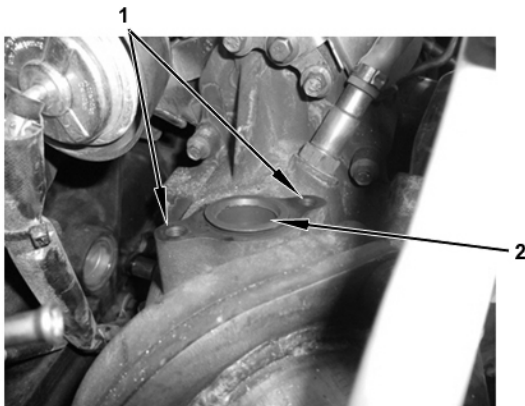

Figure 11 Thermal Management Valve Housing Port
15. Discard HCl bolts and gasket (1) (Figure 11).
16. Place cap (2) on thermal management valve housing port (Figure 11).